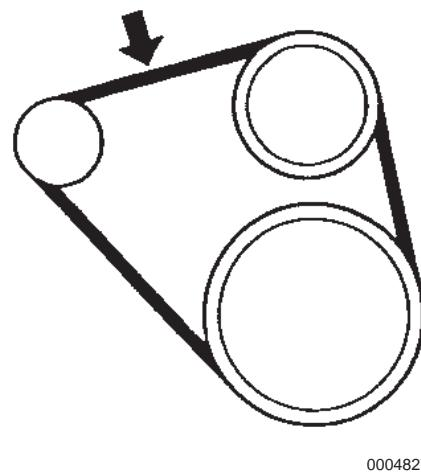

Figure 11-4
2. Check drive belt tension by pressing on the drive belt as shown in (**Figure 11-4**) with 10 kgf·cm, 98 N·m (22.0 lbf) of force to check the deflection of the drive belt.